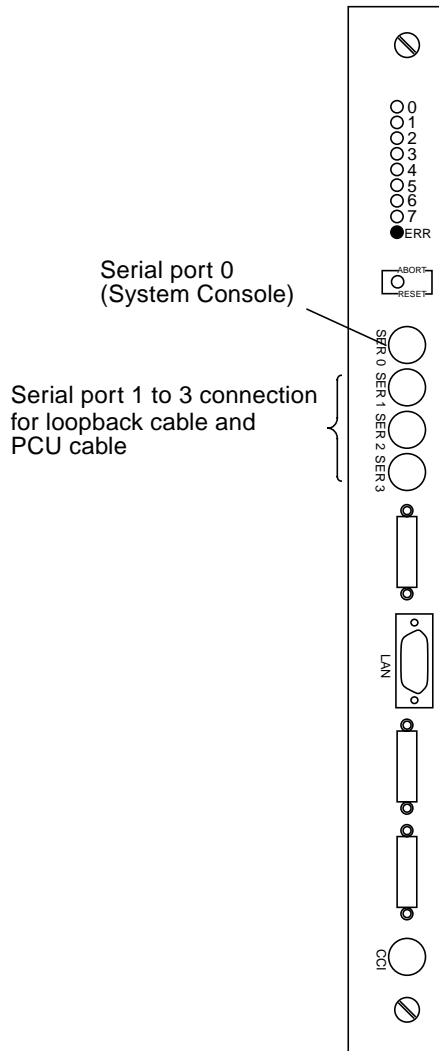

FIGURE 6-2 Processor Card Adaptor Board Front Panel
3. Remove the loopback cable connected to each Processor card's serial ports 1, 2, and 3. See FIGURE 6-2.